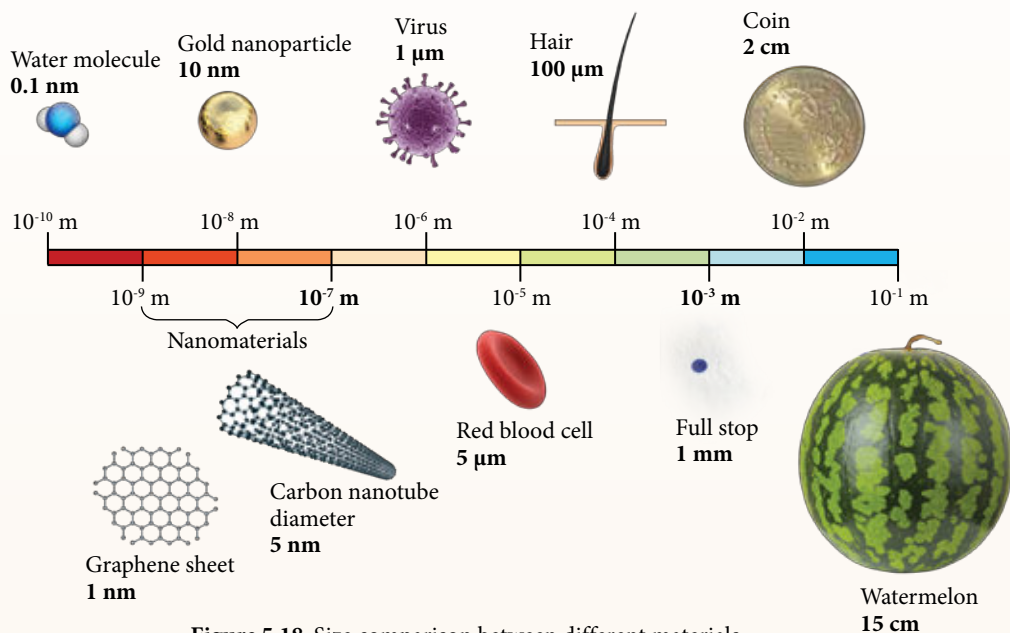

Figure 5.18 Size comparison between different materials
- To see the connection between nanoscale and the materials around us, let us study Figure 5.18. Can you add a few more materials?